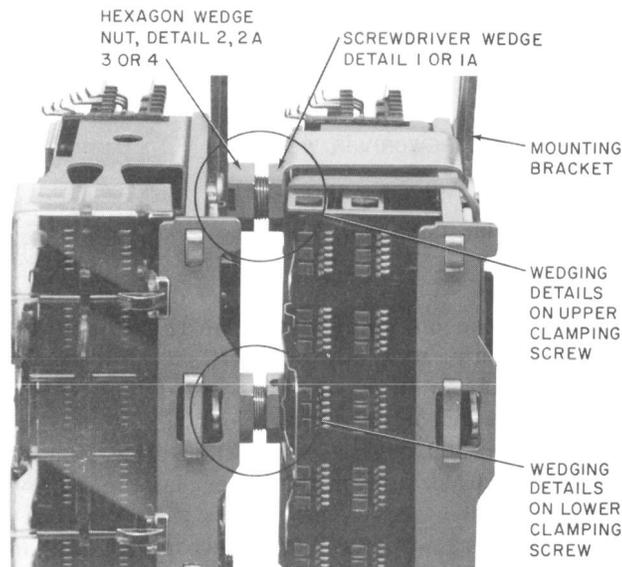

Fig. 22—►Wedging Details in Place on Upper and Lower Clamping Screws◄
3.65 For the lower clamping screw, repeat steps 3.60 through 3.64. See Fig. 22.